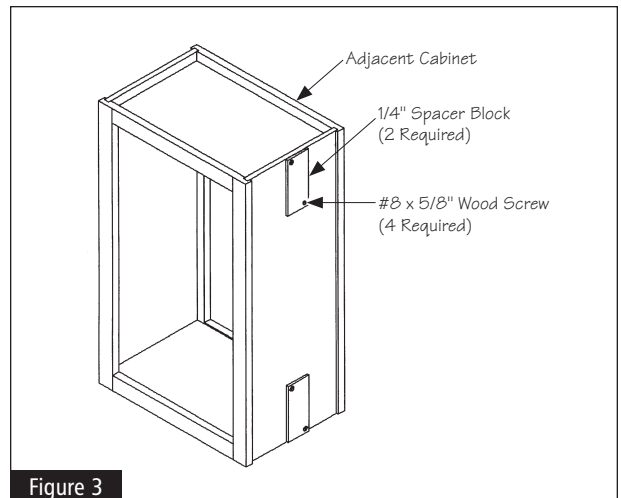

Figure 3
**1** Skip to Step #2, if you will be attaching your SEW to a 3/4" thick Side Panel. Determine which side of the adjacent peninsula cabinet the two SEW's will be mounted to. Cut the 1/4" wood spacer in half and attach to the side panel of the adjacent cabinet. Spacer should be centered from front to back on the side panel. Drill and countersink two 3/32" diameter pilot holes through each spacer and attach the spacers to the cabinet side panel using two #8 x 5/8" wood screws for each spacer. Make sure the screw head is flush with spacer surface. See Figure 3.